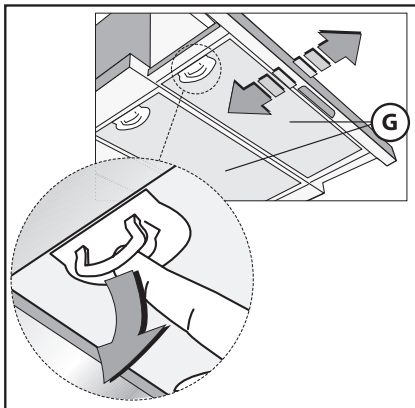
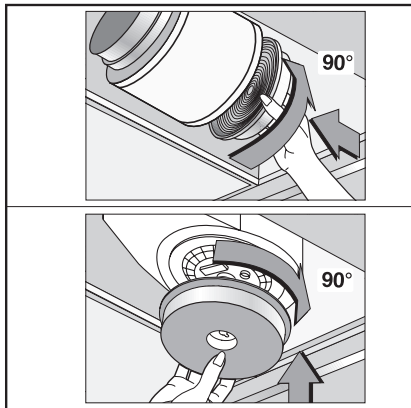

Fig.4
Fig.5
- The minimum distance between the support surfaces of the cooking pots on the cooker top and the lowest part of the cooker hood must be at least **65 cm**. If a connection tube composed of two parts is used, the upper part must be placed outside the lower part. Do not connect the cooker hood exhaust to the same conductor used to circulate hot air or for evacuating fumes from other appliances generated by other than an electrical source. Before proceeding with the assembly operations, remove the anti-grease filter(s) (Fig.4) so that the unit is easier to handle.
To transform the cooker hood from the extraction version to the re circulating one ask your supplier for an activated carbon filter. The filter must be fitted to the extracting group cooker hood in the centre of the fan grille by twisting it by 90 degrees until it is gripped securely (Fig.5). For this operation remove the anti-grease filter(s) **G** (Fig.4). The clean air is returned into the room through a connecting tube passing inside the cupboard and connected to the ring **H** (Fig.3B).